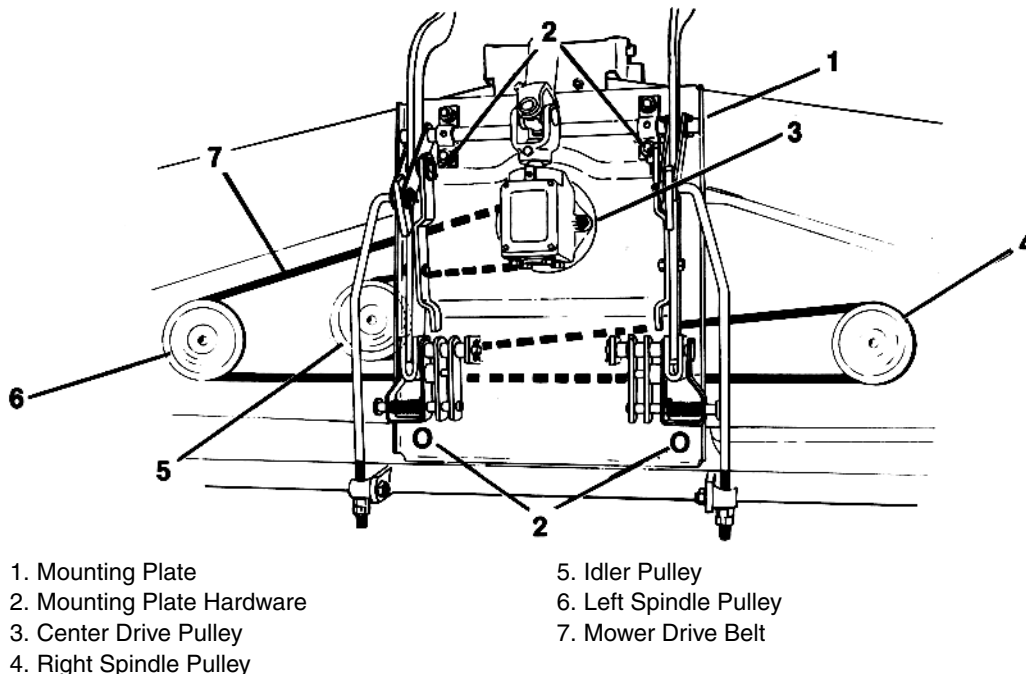

Figure 9
4. Pull belt off of right spindle pulley (Figure 9).